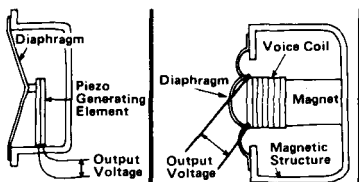

FIGURE 1-
**Ceramic and Crystal Generating Elements.** The diaphragm of a crystal or ceramic microphone is attached to a special material which produces an electric output voltage when it is moved. Such materials are termed "piezoelectric." A typical ceramic microphone is diagrammed in Figure 1. Such microphones generally provide insufficient fidelity and ruggedness, even for the most modest requirements of the professional and serious amateur.